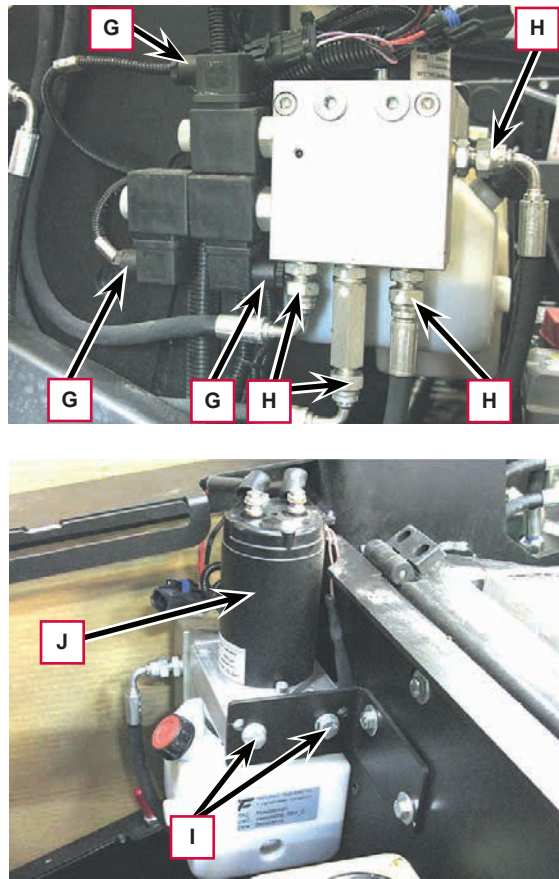

Figure 12
8. Disconnect the electrical connections (G, Figure 12) of the solenoid valves.
9. Unscrew the lines (H), collecting any hydraulic fluid which may come out in a suitable container; immediately plug the disconnected fittings to prevent impurities entering the hydraulic system.